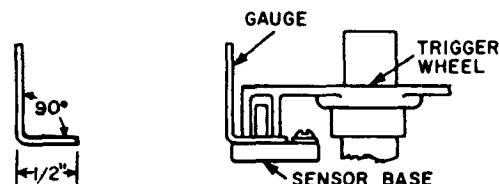

FIG. 29-USE OF SENSOR GAUGE
(10) Support the distributor shaft and press the trigger wheel onto the yoke. Bend the wire gauge to the dimension shown in Figure 29, then use the gauge to measure the distance between the trigger wheel legs and the sensor base as shown in Figure 29. Install the trigger wheel until it just touches the gauge.
(11) Add 3 to 5 drops of SAE 20 oil to the top of the yoke.
(12) Install dust shield and rotor. Re-install distributor. Time engine to specifications.